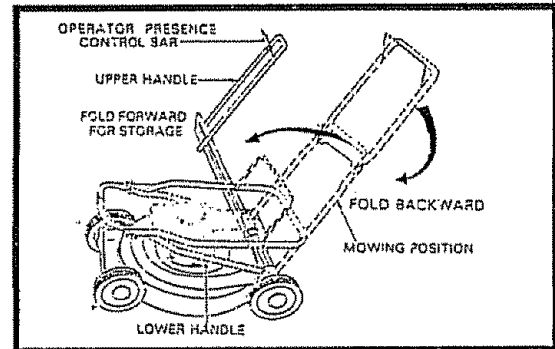

FIG. 17
- You can fold your mower handle for storage as shown in Fig. 17.
IMPORTANT: WHEN FOLDING THE HANDLE FOR STORAGE OR TRANSPORTATION, BE SURE TO FOLD THE HANDLE AS SHOWN IN FIG. 17. IF YOU FOLD THE UPPER HANDLE SECTION THE WRONG WAY, YOU MAY DAMAGE THE CONTROL CABLES.